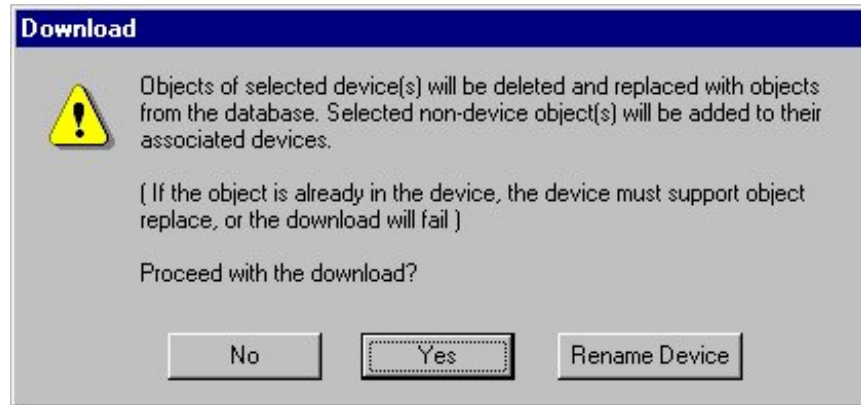

Figure 11-3: Download Warning
3. Select Download Objects on the Tools menu. A Download warning appears (Figure 11-3).